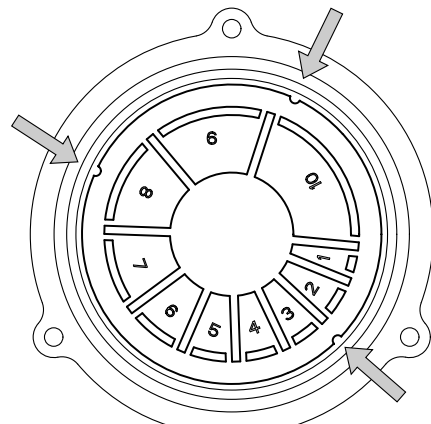

Fig. 16
3.6.2 Use of air intake (fig. 16)